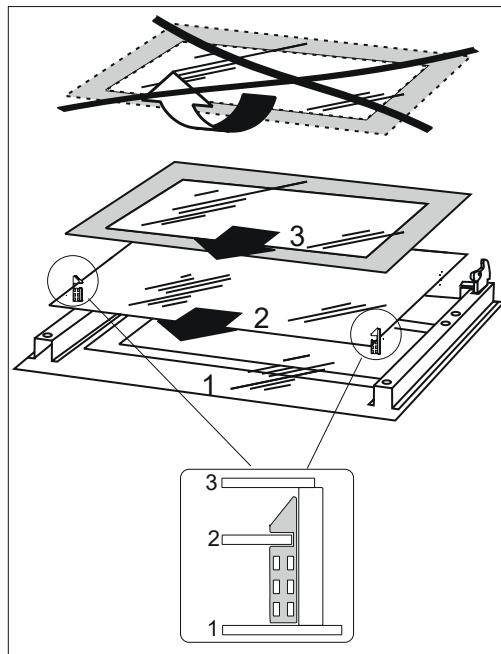

Fig9
3. Remove the inner glass from the clips at the bottom of the oven door (Fig.9 and 10).